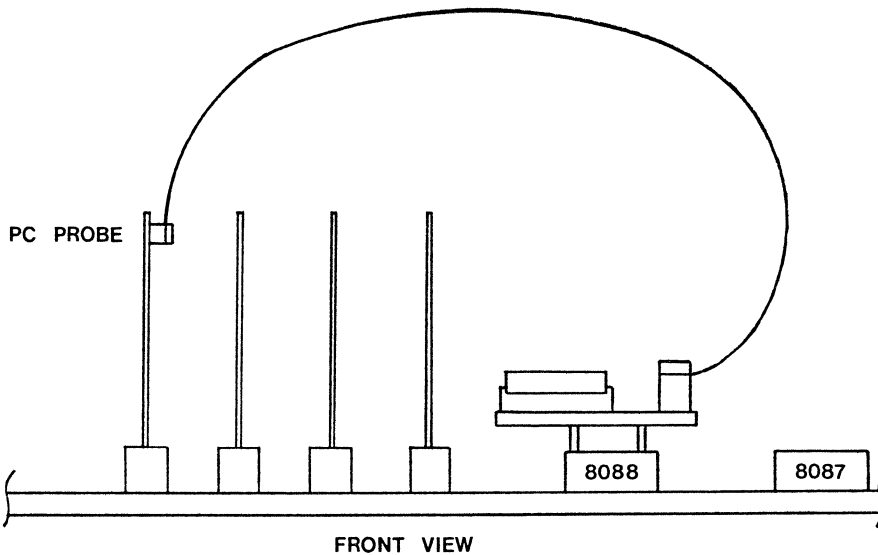

Figure 1-4. Installed PC PROBE Board
5. Insert the PROBE printed circuit card into the PC chassis. See Figure 1-4.